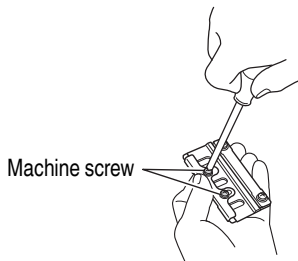

Fig. 21
- (3) Loosen the 2 screws holding on the carbide blade and set plate (A), set plate (B).
- (4) As shown in Fig. 21, 22, press the turned surface of set plate (A) to the wall surface b while adjusting the carbide blade edge to the wall surface a of the set gauge. Then, tighten them with the 2 screws.